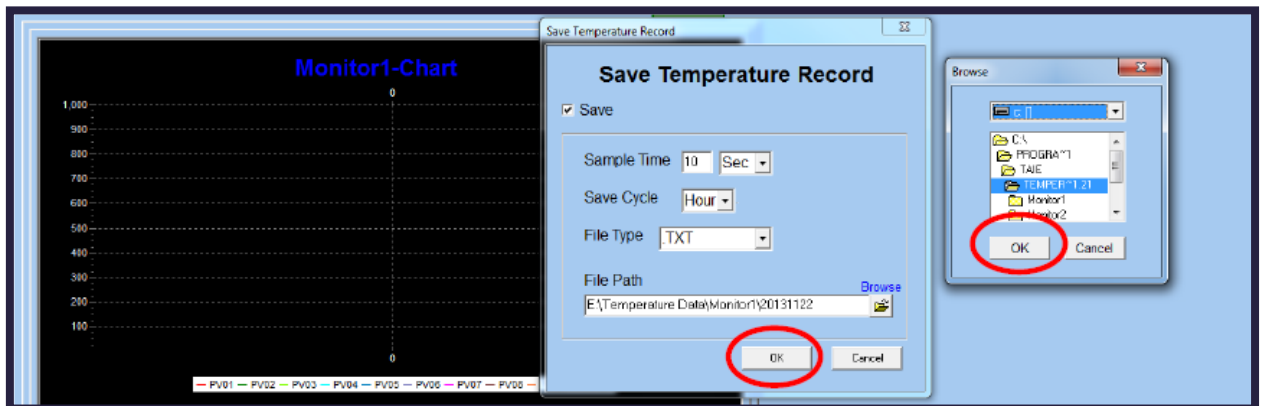

Figure. 25
16. Enter the desired "File Path" by clicking on "Browse". Browse window will appear, choose the required destination or create new folder(Figure. 25).